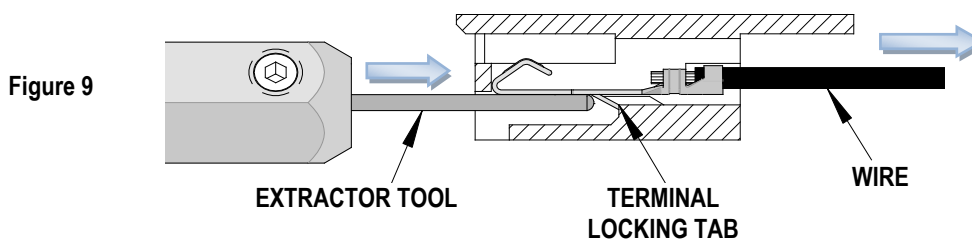

Figure 9
4. The extractor pin will depress the terminal locking tab, then pull the terminated wire out of the housing as shown. Wiggling the wire while pulling it out will help. See Figure 9.